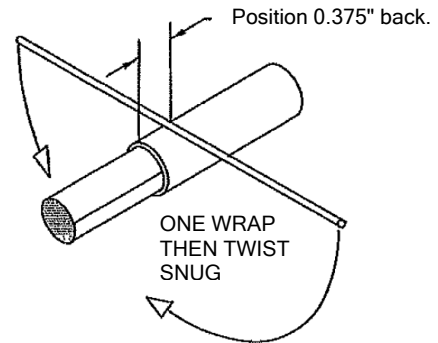

Figure 6
6. Wrap a strain relief wire around the cable jacket. See Figure 6.